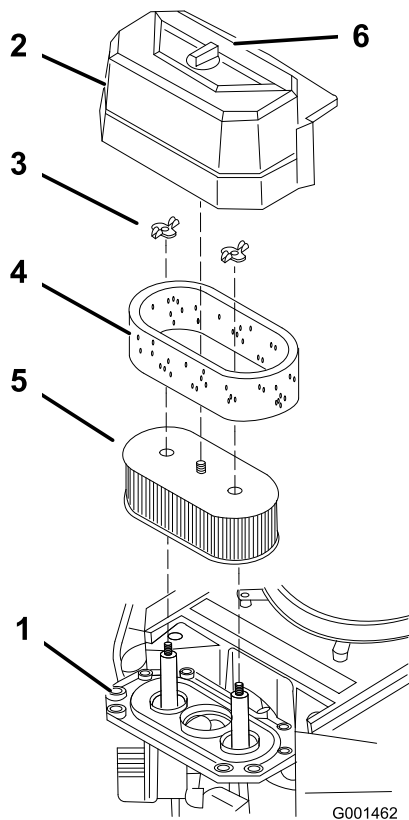

Figure 28
3. Clean around the air cleaner to prevent dirt from getting into the engine and causing damage (Figure 28).
4. Unscrew the cover knob and remove the air cleaner cover (Figure 28).
5. Remove the 2 wing nuts and remove the air cleaner assembly (Figure 28).
6. Carefully pull the foam element off the paper element (Figure 28).
- Place the air cleaner assembly onto the air cleaner base and secure it with the 2 wing nuts (Figure 28).
- Place the air cleaner cover into position and tighten the cover knob (Figure 28).
- Do not clean the paper filter, replace it (Figure 28).
- Carefully slide the foam element onto the paper air cleaner element (Figure 28).